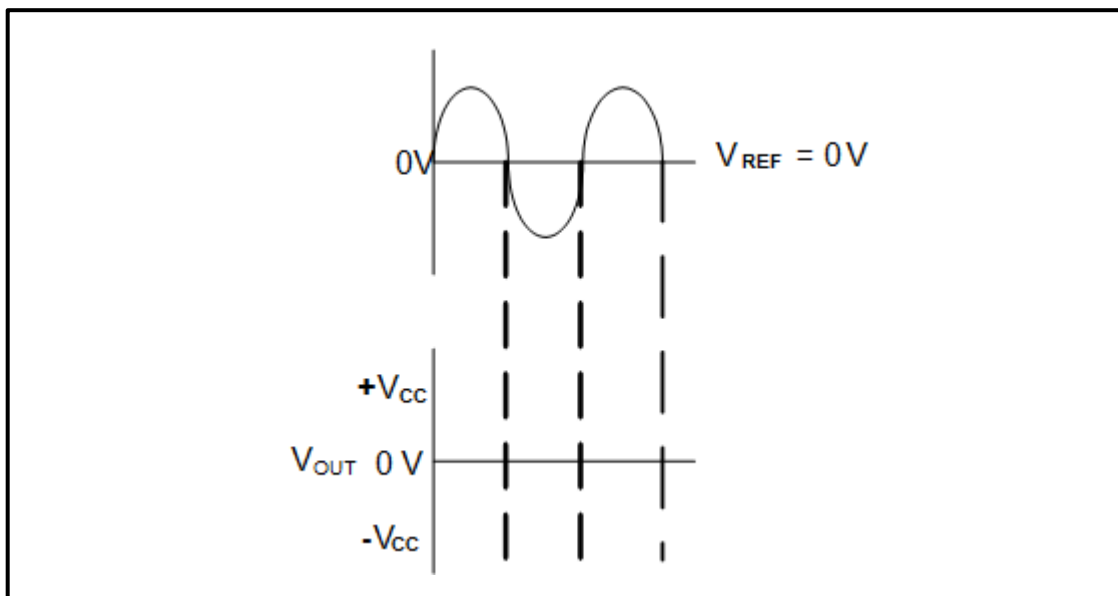

FIGURE 7.7: INPUT SIGNAL TO A NON-INVERTING COMPARATOR
7.7 FIGURE 7.7 below shows the input signal to a non-inverting comparator. The reference voltage is equal to zero. Draw the input signal and directly below that, on the same y-axis, draw the output signal. Label your answer.